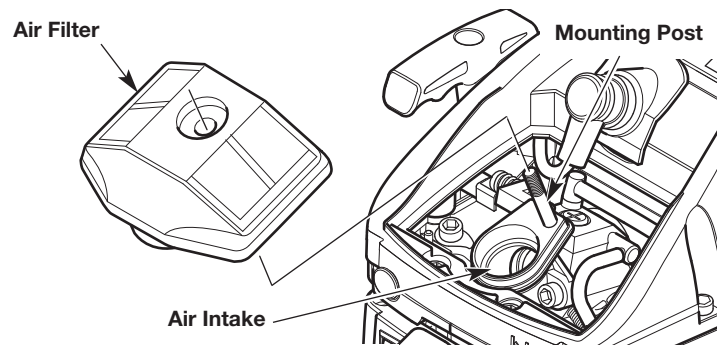

Fig. 43
3. Remove the air filter (Fig. 43).
5. Reinstall the air filter onto the mounting post (Fig. 43). Make sure the opening in the air filter sits securely in the air intake (Fig. 43).